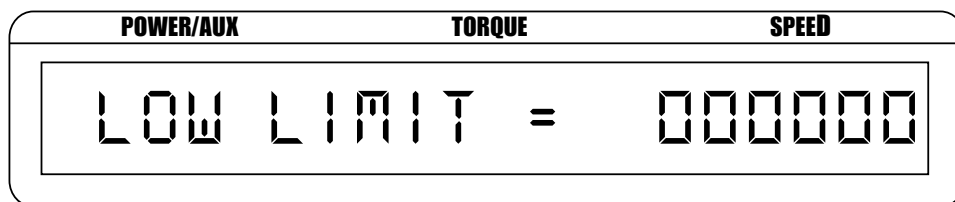

Figure 4-11 Low Limit Setup Display
14. Press and release SHIFT. The Low Limit Setup Display (as seen in Figure 4-11) appears.
20. Press and release SHIFT. The Low Limit Setup Display (as seen in Figure 4-11) appears.